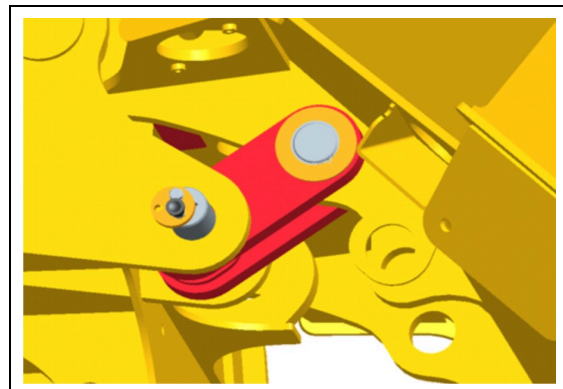

Figure 2: Over Centre Bin Lock in Activated Position
6. Insert the locking pin through the holes in the chassis and the Over Centre Bin Lock (Refer to figure 2).